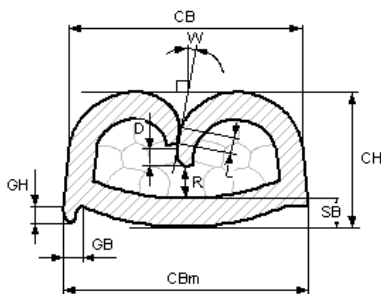

Figure 9
- ◇ 需要定期对压接结构做剖面分析，分析内容应涵盖如下（参考 Fig.9）。
It is very important to do the section analysis, which contains the items as follows. (Fig.9).